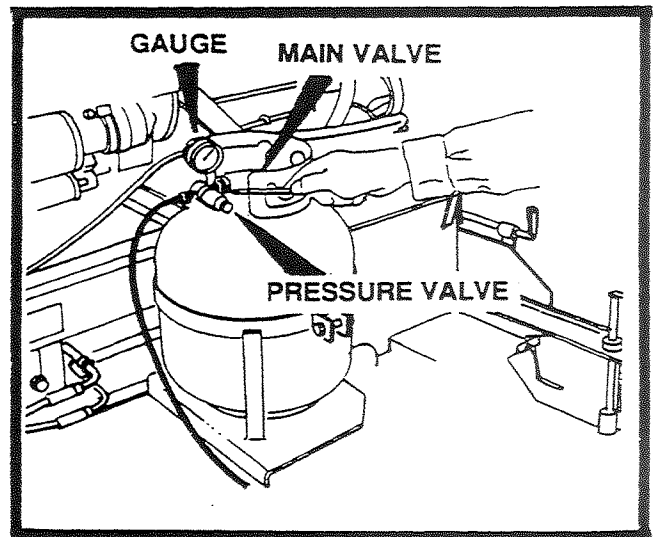

FIGURE 8
The heating of the screed will require extreme care. The propane gas used to heat the screed is a volatile combustible that if treated with respect will not present a problem. Follow the procedures below and refer to the illustration figure 8 as required.
2. Turn main propane valve on and set regulator at 15 lbs. Refer to figure 8.